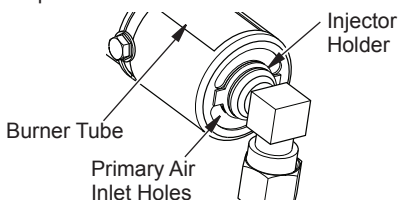

Figure 50 - Injector Holder On Outlet Burner Tube
2. Inspect burner, pilot and primary air inlet holes on injector holder for dust and dirt (see Figure 50).